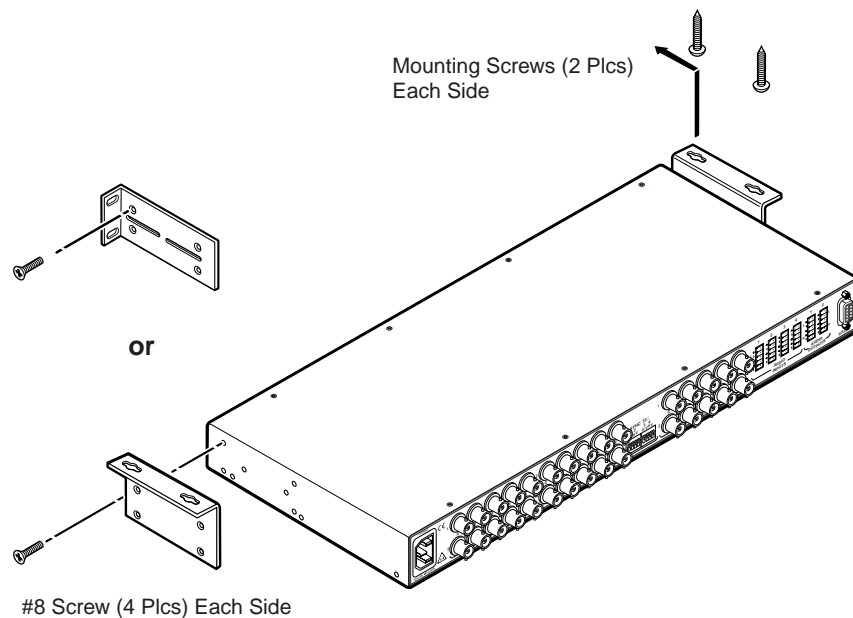

Figure 2-1 — Mounting the CrossPoint 42 HVA Switcher
1. Attach the table/wall mounting brackets to the switcher with the eight provided #8 machine screws (figure 2-1).
1. Attach the rack mounting brackets to the switcher with the eight provided #8 machine screws (figure 2-1).